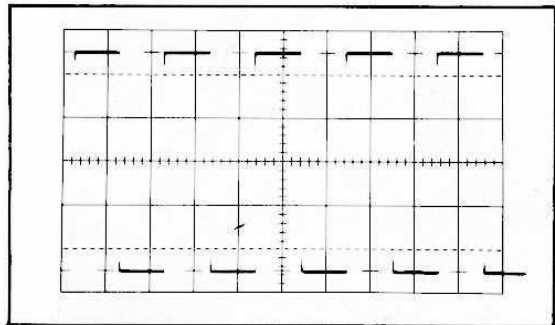

Fig. 5-1. Typical CRT display showing correct vertical gain at 1 mV/cm.
- e. Check—Display amplitude must equal 5 cm \pm 0.75 mm. See Fig. 5-1.